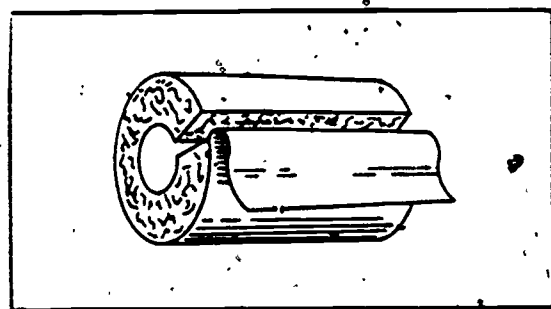

Figure 4-7. Magnesia insulation.
g. **Magnesia insulation,** shown in figure 4-7, is composed of approximately 85 percent pure carbonate of magnesia and long threadlike asbestos fibers. This